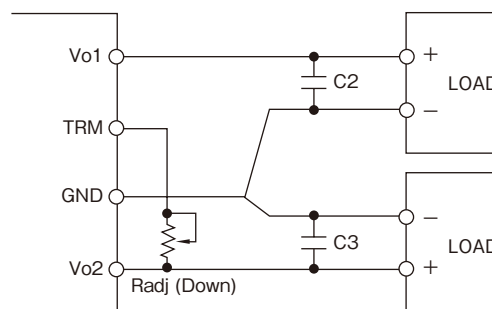

Fig. 3-5: Connection for output voltage trim down
- Vo2 terminal: to adjust to lower output voltage; Fig.3-5.